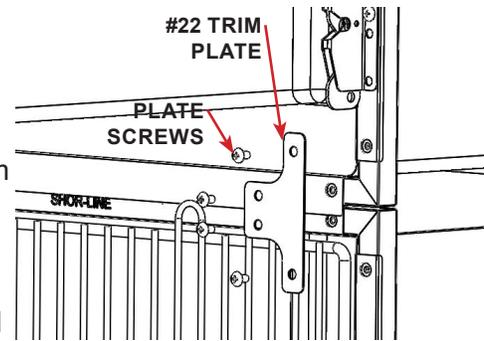

FIGURE 2.47 - Trim Plate #22
STEP 26: Remove the bottom right trim plate screws (4 each) from the last cage in the row and the last cage in the row below. See FIGURE 2.47
STEP 27: Install, but do NOT fully tighten screws, trim plate (#22) using the screws removed in the previous step. See FIGURE 2.47